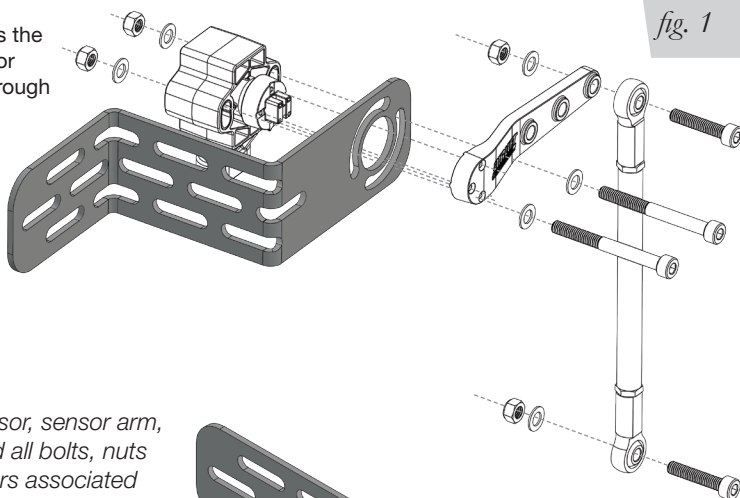
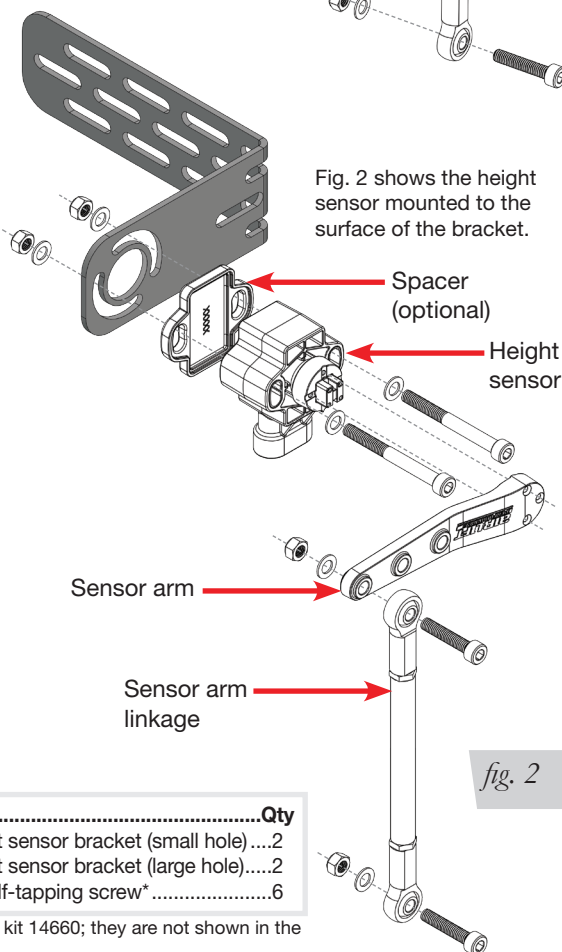

fig. 1
fig. 2
Fig. 1 shows the height sensor mounted through the hub.
Fig. 2 shows the height sensor mounted to the surface of the bracket.
1. The height sensor can be mounted through the hub or to the back, as shown in Fig. 1 and Fig. 2.